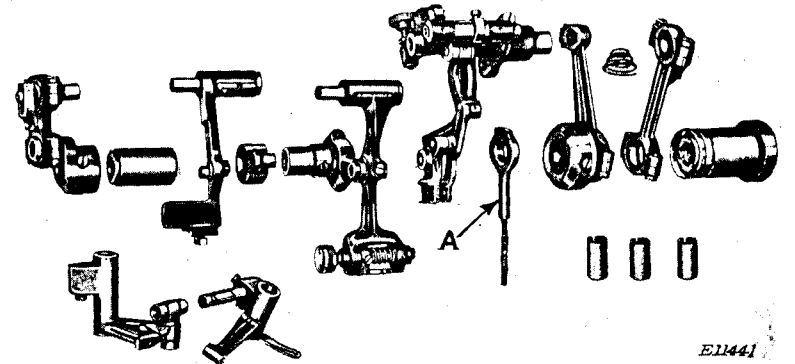

FIG. 27
Take off nut (B) and remove screw (C). Remove connecting rod and feed eccentric in one unit. Remove the feed eccentric lubricator (A, Fig. 27).